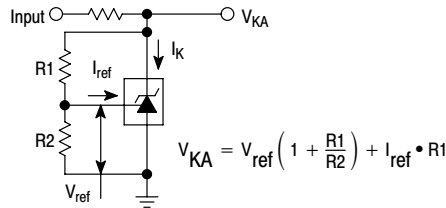

Figure 2. Test Circuit for $V_{KA} > V_{ref}$
(refer to Figure 2) the total dynamic impedance of the circuit is defined as: $|Z_{KA}'| \approx |Z_{KA}| \left(1 + \frac{R1}{R2} \right)$
6. The dynamic impedance Z_{KA} is defined as $|Z_{KA}| = \frac{\Delta V_{KA}}{\Delta I_K}$. When the device is programmed with two external resistors, R1 and R2, (refer to Figure 2) the total dynamic impedance of the circuit is defined as: $|Z_{KA}'| \approx |Z_{KA}| \left(1 + \frac{R1}{R2} \right)$